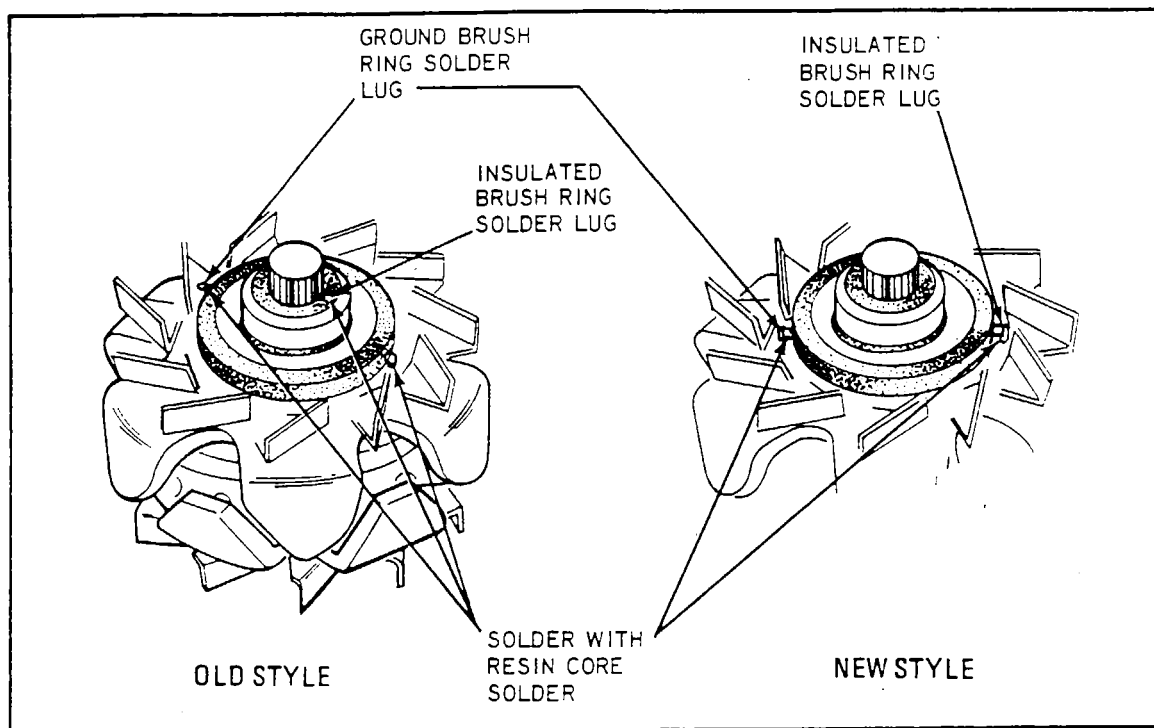

Figure 10-21. Solder Points
8. Unsolder the guide wire from the insulated slip ring lead. Press the field lead into the solder lug and solder to lug with rosin core solder. (Refer to Figure 10-21.) Solder securely but do not leave an excessive blob of solder on rotors equipped with grease retainer.
b. New Style (Refer to Figure 10-21):